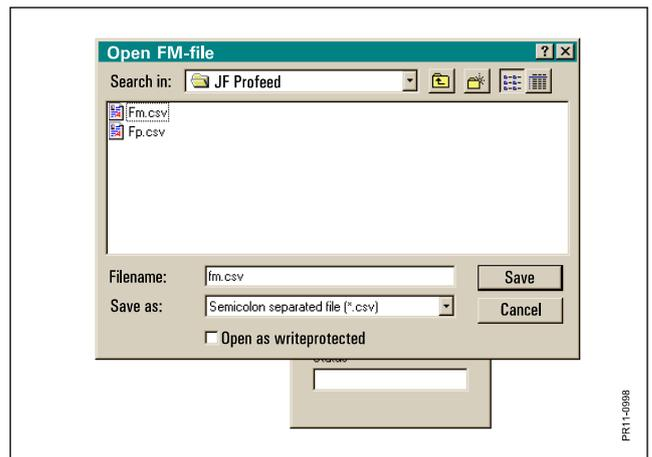

Fig. 7.11
**Fig. 7.11** This menu point is chosen, when data is transferred from the PC to the hand transmitter. First chose which feed type file: fm.csv must be transmitted and then which feed plan: fp.csv. This function is often used when the contents of the feed type file: fm.csv or the feed plan file: fp.csv must be changed on your PC and then transmitting it back to the PROFEED system.